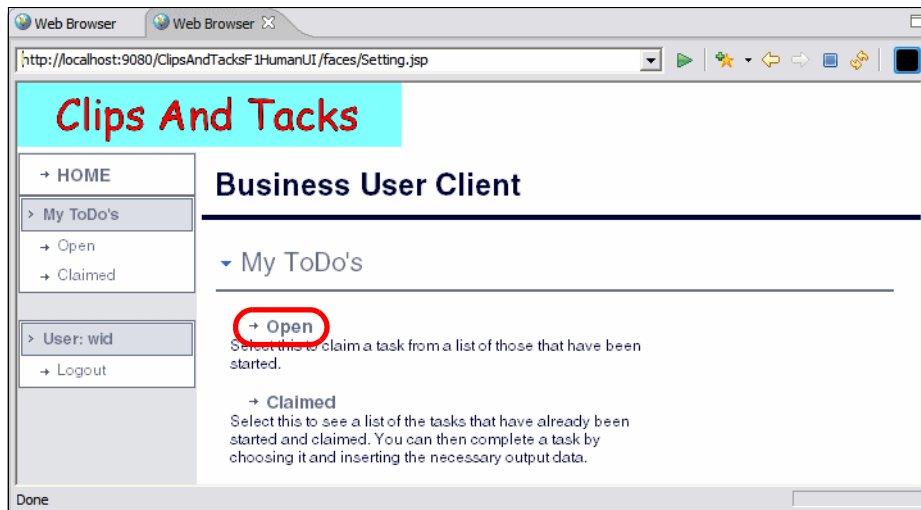

Figure 10-70 Generated user interface: Home page
- ▶ The Business User Client home page is displayed (Figure 10-70).